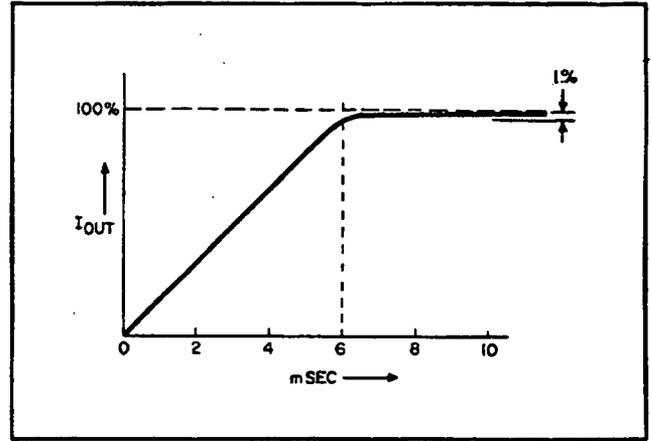

Figure 5-8. Up-Programming Speed Waveform
- The programming speed should be within the tolerances of Figure 5-8. Output should go from zero to 99 Volts (Model 6177C) or from zero to 49.5 Volts (Model 6181C). Fall time (down programming) should be almost identical to the rise time shown on Figure 5-8 except for inversion.